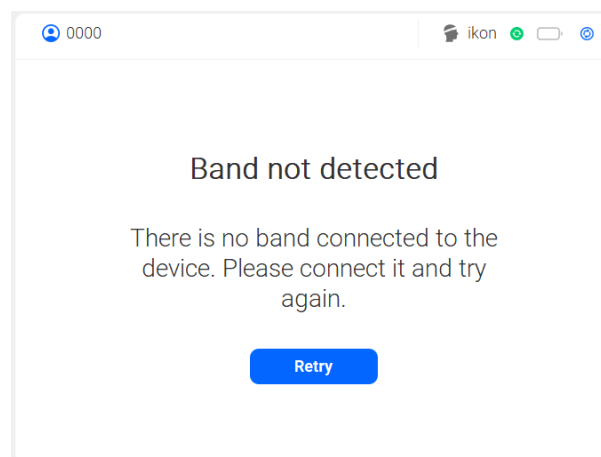

Figure 59. Dialog box to retry the connection of the device in Ikon App
4. It is important that the amplifier is powered on and properly connected to the corresponding band. If these conditions are not met, a message with a “Retry” button will appear (see Figure 59), allowing the user to re-check the connectivity of the device with the band.